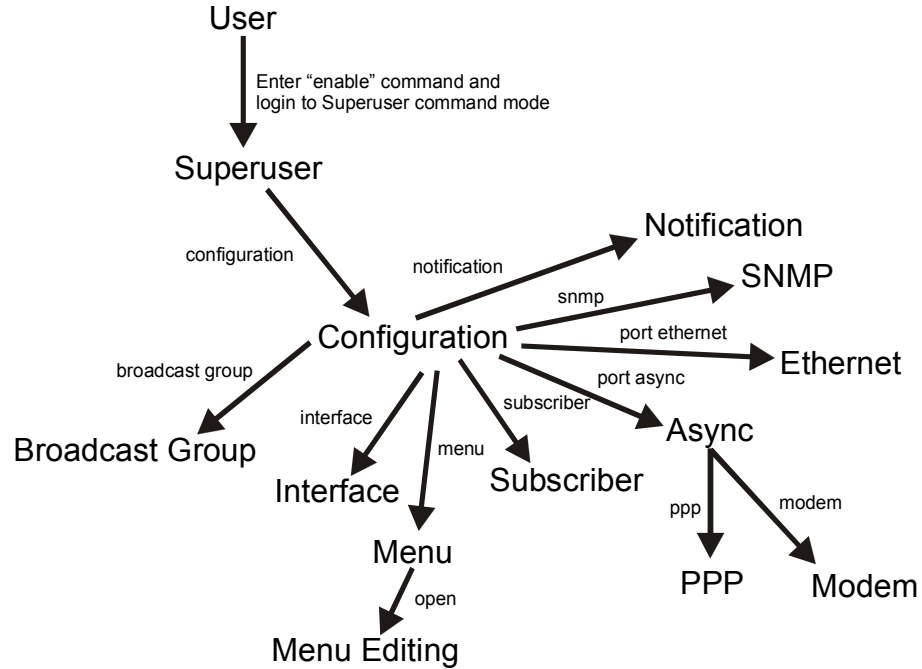

Figure 16 - Basic Menu Structure
- To use the CLI, refer to Figure 16 for the CLI tree structure and to the *LX-Series Commands Reference Guide* for information on specific commands.
The command line interface structure is designed to be as intuitive as possible. Refer to “Navigating the LX Command Line Interface (CLI)” in the *LX-Series Commands Reference Guide* for detailed information on the menu tree modes. See Figure 16 for the CLI menu structure.